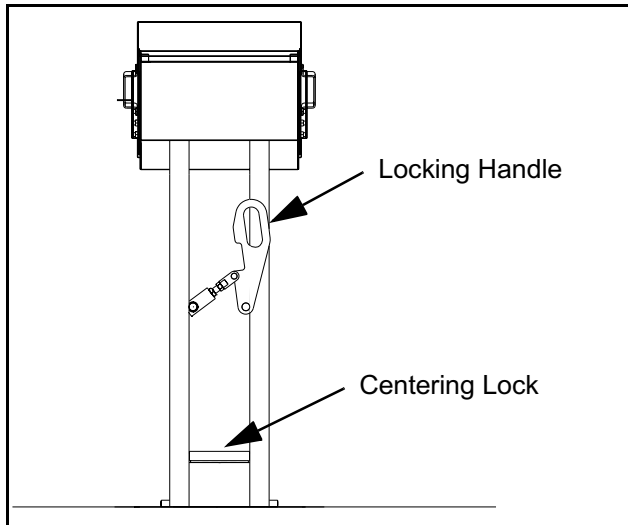

Figure 2 - 18 Repositioning operator's console
- 1) Lift the locking handle to release the console. (Figure 2 - 18)